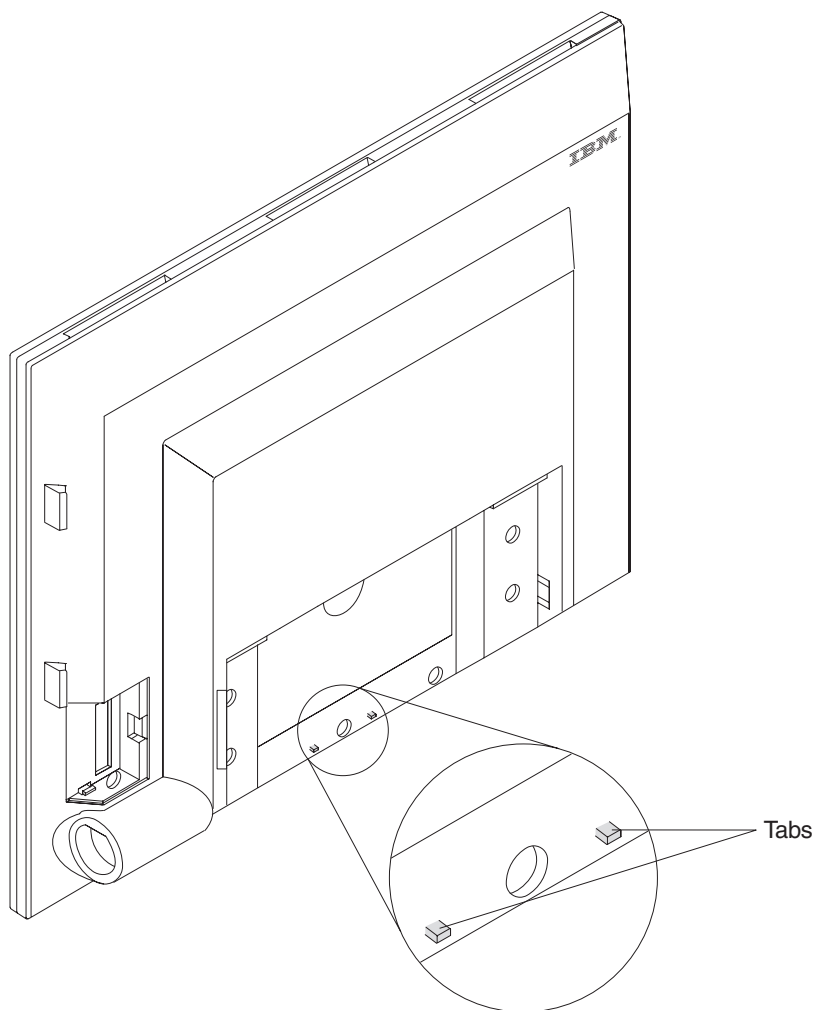

Figure 47. Tabs for attaching the pointing device
1. Before you begin, locate the tabs for the pointing device on the rear of the 4820 (see Figure 47).